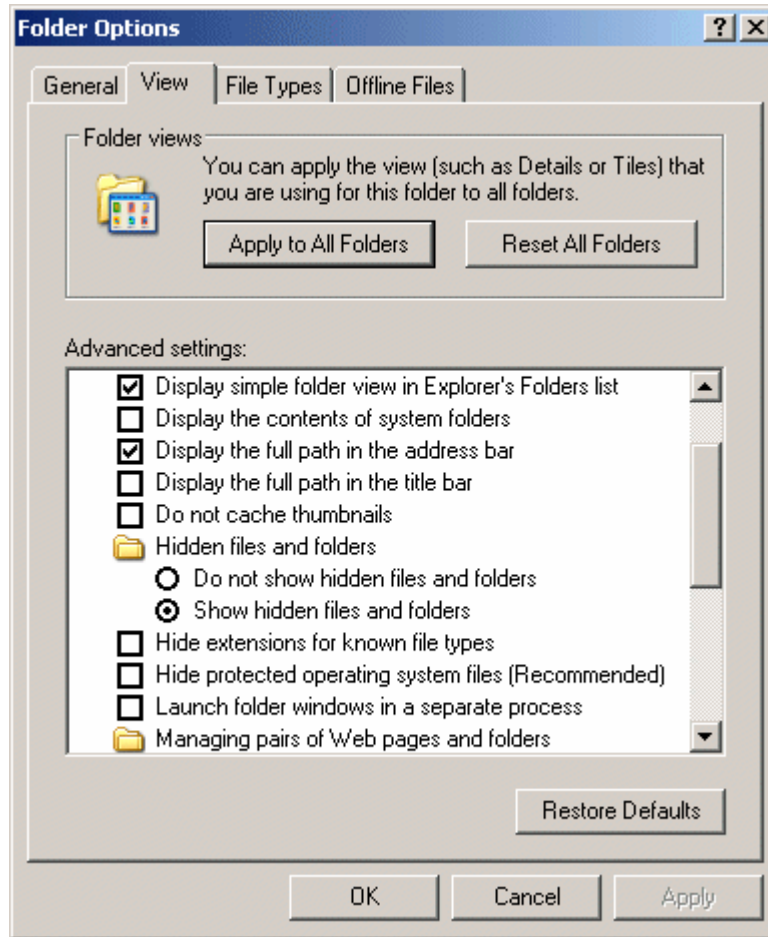

Figure 4-20 Windows Explorer Tools → Folder Options... Dialog.
- vii. Uncheck the “Hide protected Operating system files...” as illustrated in Figure 4-20.